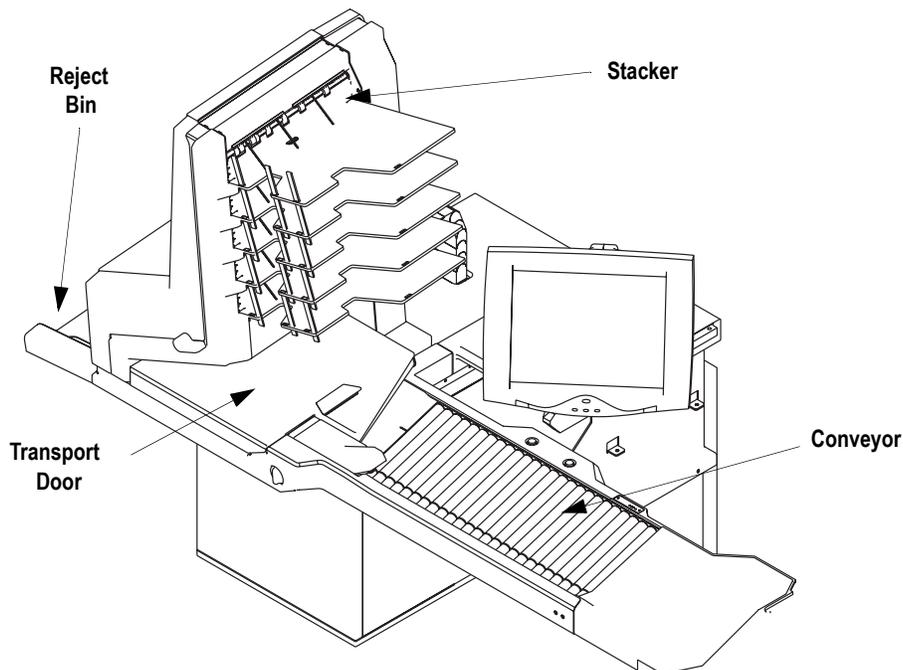

FIGURE 28: Conveyor and Stacker Assembly
- 3 Vacuum dust and debris from the conveyor rollers and the stacker assembly (see Figure 28).